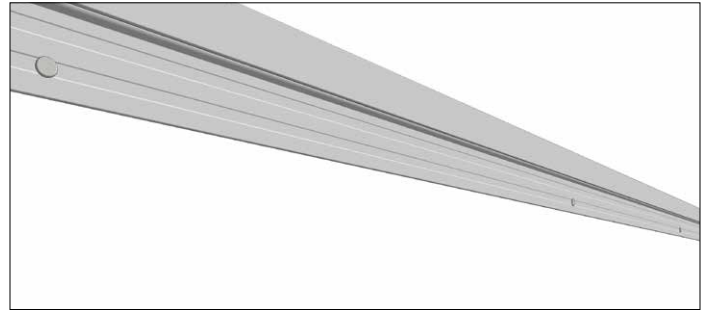

Figure 23.3
3. At the top of the wall apply an EZ.40 J trim and fasten in place. (Figure 23.3) (See **Fastening Info**).